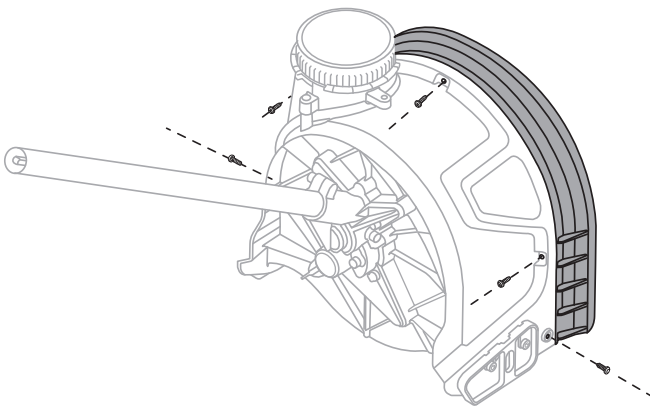

Fig. 12
3. Remove the five screws that are located on the attachment guard. (Fig. 12)